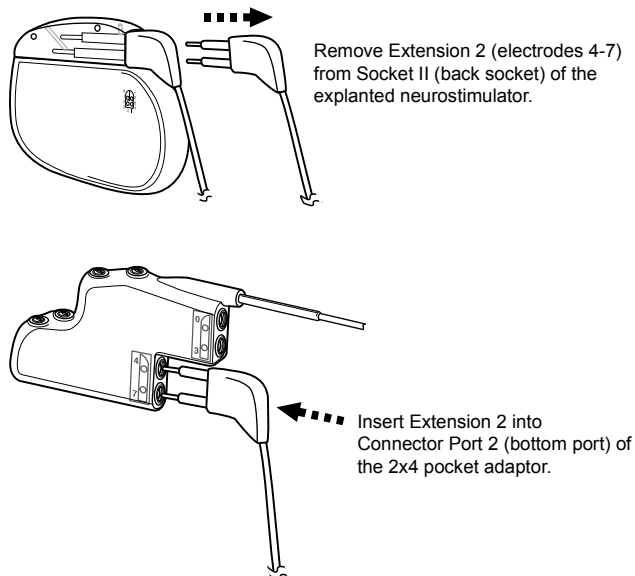

Figure 4. Remove Extension 2 from Socket II of the explanted neurostimulator and insert into Connector Port 2 of the 2x4 pocket adaptor.
1. Remove Extension 2 from Socket II (back socket) of the explanted neurostimulator (Figure 4).
4. Insert the connector pins of Extension 2 into Connector Port 2 (bottom port) of the 2x4 pocket adaptor until fully seated (Figure 4).